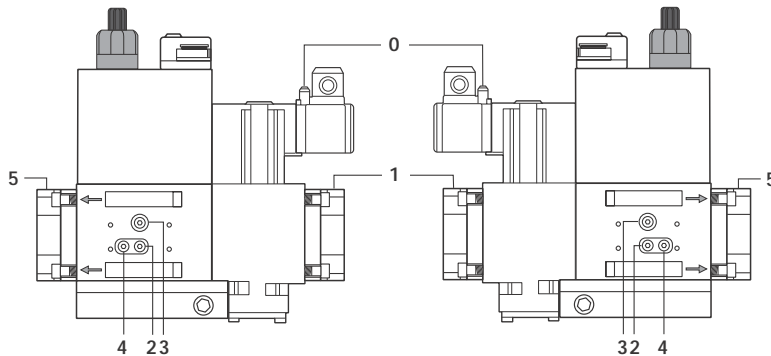
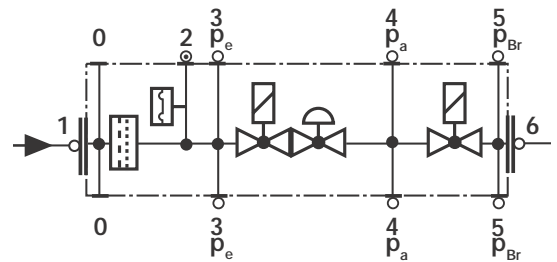

Fig. 35
Fig. 36
- Change the filter if the pressure difference between pressure connection 1 and 2 (Fig. 35-Fig. 36) $\Delta p > 10$ mbar.
- Change the filter if the pressure difference between pressure connection 1 and 2 (Fig. 35-Fig. 36) is twice as high compared to the last check.